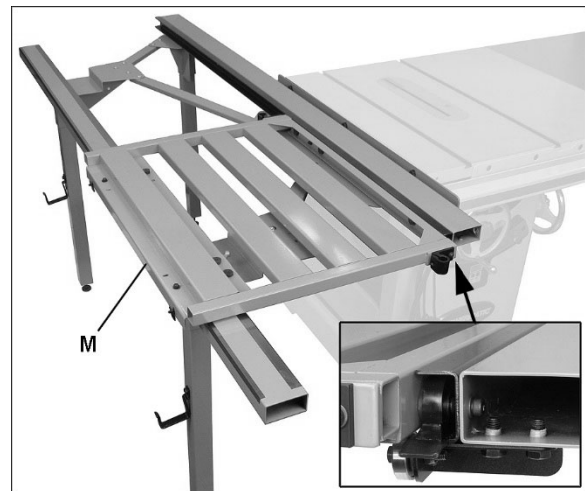

Figure 7-10
1. Set table (M, figure 7-10) onto rails. The bearings with scrapers on the right side of table should slide into channel on inner guide rail. See inset, Figure 7-10.